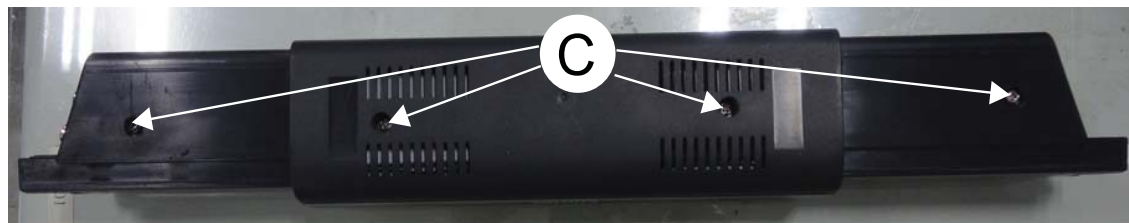

Figure 3
- 1) Loosen 4 screws "C" at the bottom cover as shown in figure 3.